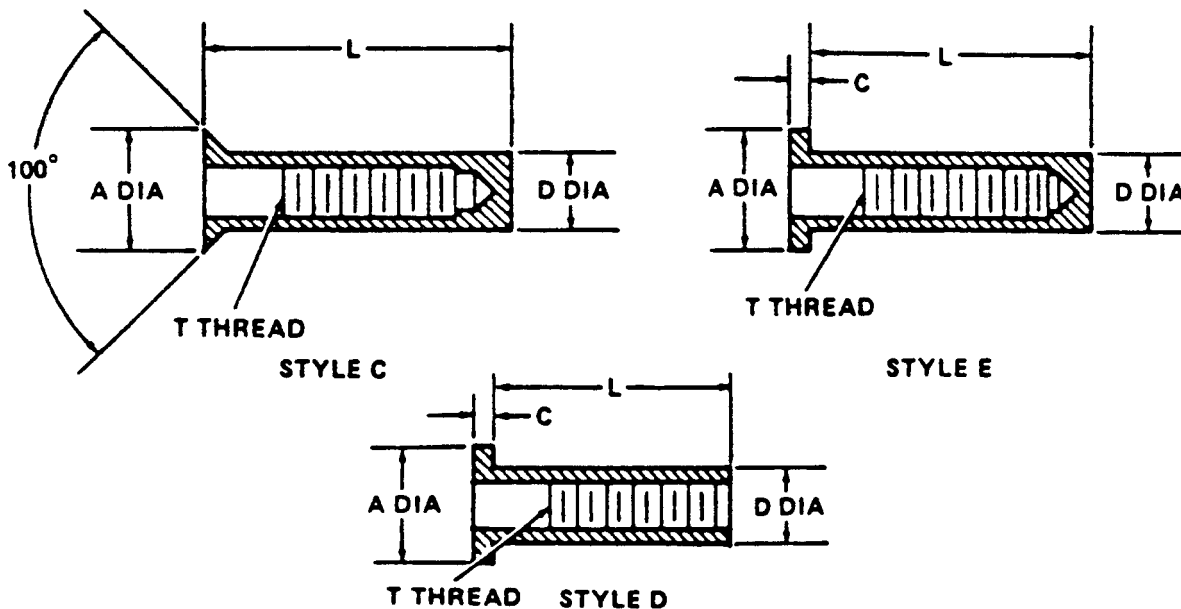

Figure 3-8. Rivnuts (Threaded Inserts).
b. Rivnut Installation and Removal. Rivnuts (threaded inserts) are tubular rivets with internal threads and are used throughout the shelter wherever blind threads are required. The types of rivnuts used in the shelter are shown in Figure 3-8 and described in Table 3-3. Flat head rivnuts (style D and E) may be used wherever head thickness will not interfere with installation of equipment. Countersunk head rivnuts (style C) are used for flush installation. Keyed rivnuts are used in locations which are subject to vibration and torque. Closed end rivnuts (styles C and E) must be used for all interior or exterior repairs to keep moisture and dirt from entering panels. Open end rivnuts (style D) maybe used only where rivnut to be replaced is open end and not subject to water penetration.